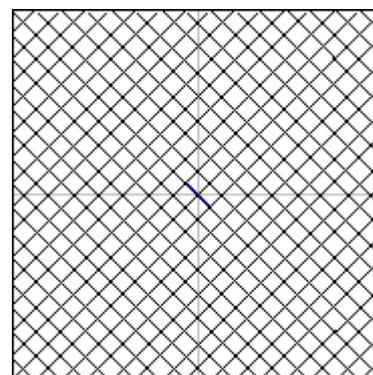

Fig. 3.2.09
**Angle Step:** The progressive angle of each hatch line. Fig.3.2.09 show the fill representation when Angle Start is  $45^\circ$  and Angle Step is  $90^\circ$ .